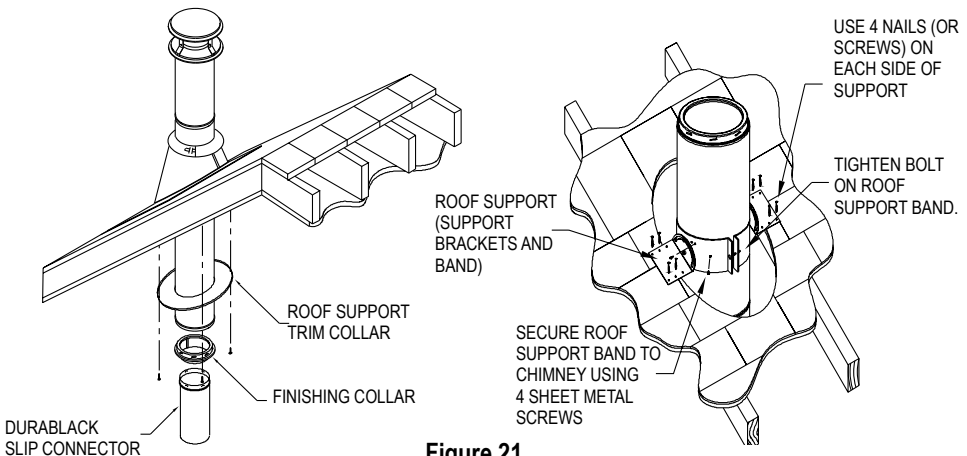

Figure 21
(2) A Roof Support is also used in installations where there is a cathedral ceiling, and a Square Ceiling Support is not desired. The Roof Support allows the DuraTech chimney to come down into the room below the level of the ceiling (**Fig 21**). The Roof Support can support a maximum of 45 feet of DuraTech Chimney total, and maximum of 20 feet below the support. If a taller stack of DuraTech Chimney is required, you must use a Square Ceiling Support Box instead.
hardware. Attach the Roof Support Brackets to roof using (4) 8 penny nails or (4) #8, 1-1/2" screws per side (**Fig 21**).
3. Determine how much DuraTech Chimney will be extending into the room (minimum of 3" below the ceiling). Be sure to maintain the proper clearance to combustibles (walls and ceilings) for the connector pipe. Once you have identified the proper height for your installation, attach the of the Roof Support Band to the Chimney Section by tightening the Bolt, and secure it by using (4) supplied sheet metal screws.
5. Slide Trim Collar over the DuraTech Chimney and attach the Trim Collar to the ceiling using (4) 1-1/4" screws provided (**Fig 21**).
3. Determine how much DuraTech Chimney will be extending into the room (minimum of 3" below the framing), and attach the of the Roof Support Band to the Chimney Section by tightening the Bolt, and secure it by using (4) supplied sheet metal screws (**Fig 21 & 22**).